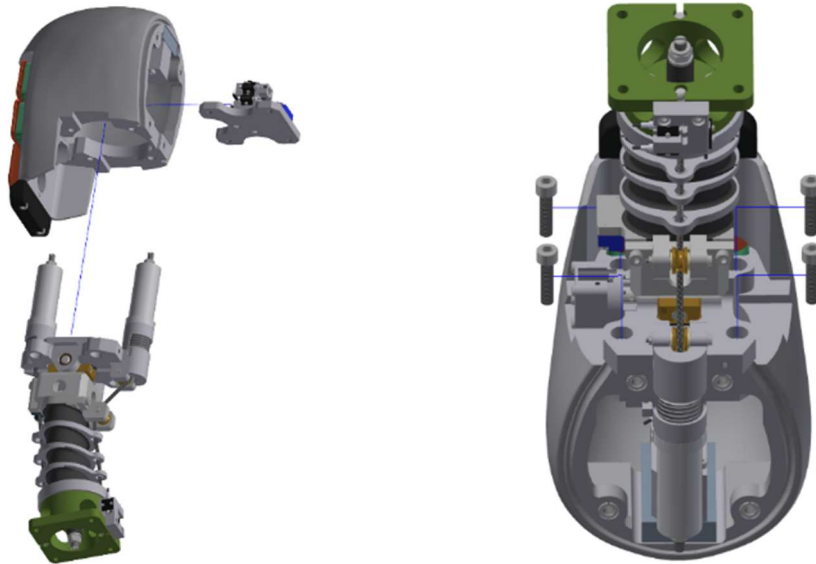

Figure 4-56. Install head/neck platform assembly (474-2300-A) to head
- 4.4.1 To attach the head to the neck assembly, insert the completed Head /Neck Platform Assembly (474-2300-A) up through the bottom of the Head Assembly (474-1000). Tighten the four M6 X 1 X 25 FHCS from the underside of the head (Figure 4-56).